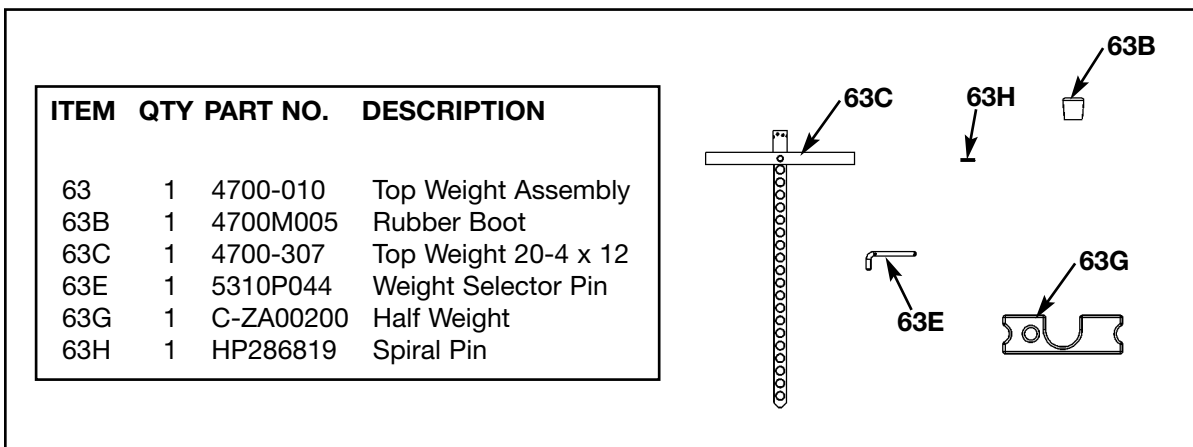

Figure 14
C. Locate the top weight package and verify the contents. See Figure 14.